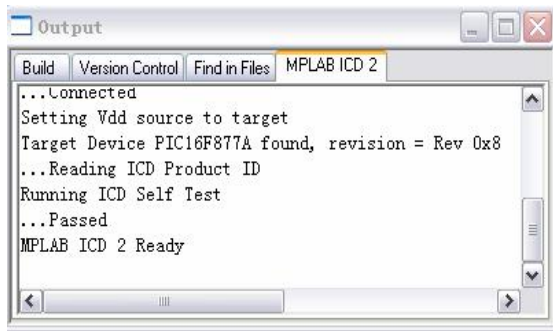

Figure 5-4 Connecting information
- 4) Implement menu command Debugger→Connect or icon in the tool bar to connect MCD2 and DEMO-II development board, and when it is successfully connected it will shown as in Figure 5-4 with a message.